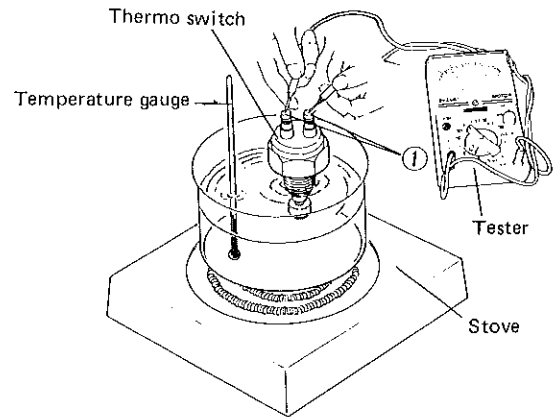

Fig. 7-23
- 2) Heat water in a pan by placing the pan on a stove, as shown in Fig. 7-23.
- 3) Immerse the switch in hot water keeping the coupler joint part ① above the water surface.